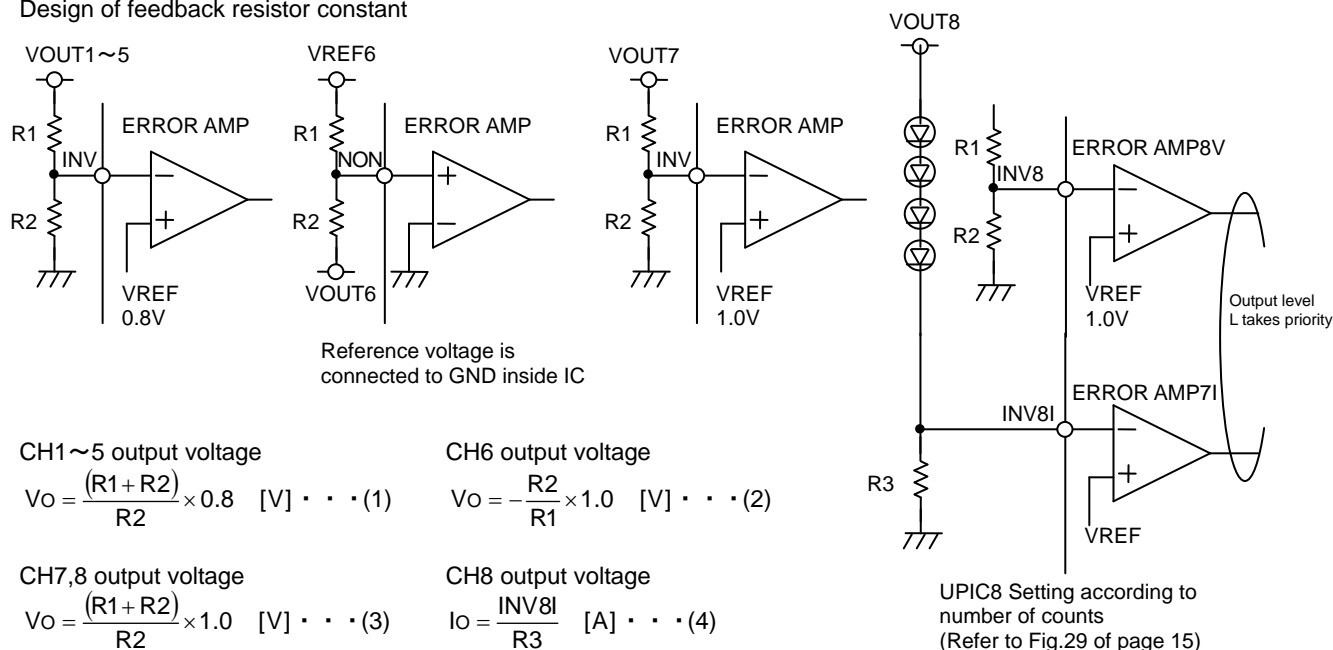

Fig.31 Feedback resistor setting method
The reference voltage of CH1 ~ 5's ERROR AMP is 0.8V. Please refer to Formula (1) in Fig.31 for determining the output voltage.
The reference voltage of CH6's ERROR AMP is connected to GND inside the IC. Therefore, a high-accuracy regulator can be configured if setting by the feedback resistance between the outputs of VREF and CH5 as shown in Fig.31. Please refer to Formula (2) in Fig.31 for determining the output voltage. R1 is recommended as more than 20kΩ because the current capacity of VREF is about 100μA.
The reference voltage of CH7's ERROR AMP is 1.0V. Please refer to Formula (3) in Fig.31 for determining the output voltage.
Over voltage setting and output current setting are respectively shown in Formula (3) and (4) in Fig.31.